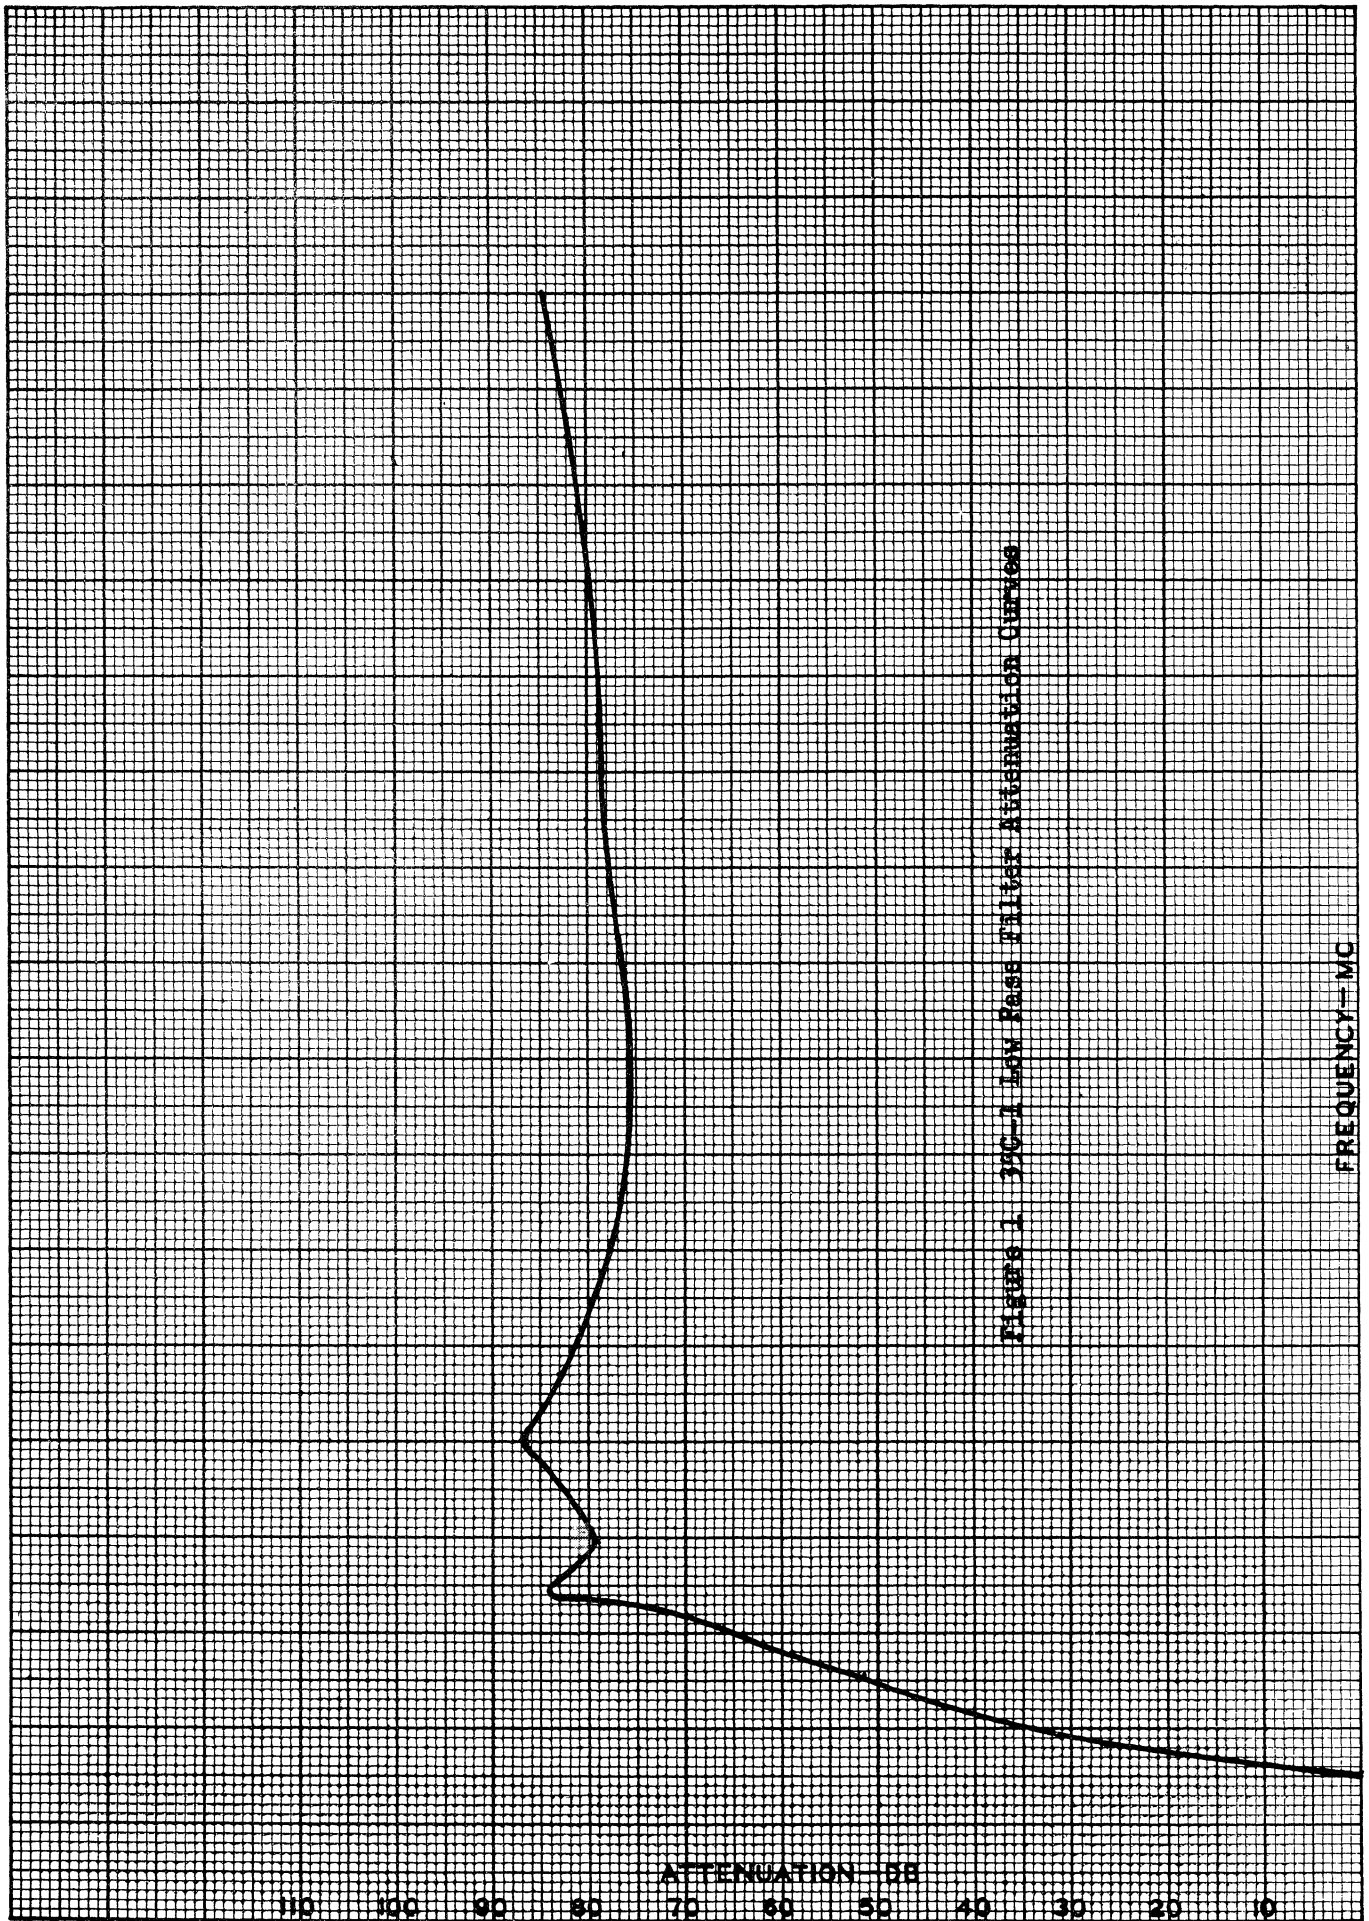

FIGURE 1. 3MC-1 LOW PASS FILTER ATTENUATION CURVES
- Figure 1 35C-1 Low Pass Filter Attenuation Curves
The idea of tearing into an otherwise perfectly functioning transmitter and changing the class of operation or adding filter components is not very well accepted by most amateurs. The reasonable alternative is a well shielded, compact and highly effective external filter unit to be placed in the antenna transmission line. To make the shielding of the filter unit most effective and at the same time reduce the possibilities of complications, unbalanced output of the transmitter can be used with the result that inexpensive coaxial line can be used to connect the transmitter to the filter unit. The outer conductor of the line and the case of the filter unit can then be easily grounded. The filter can be constructed to give 70 db attenuation to all frequencies above 5½ mc. See figure 1. The Collins Model 35C-1 Low Pass Filter can be connected directly to the output connector of a Collins Model 32V-2 or to the 32V-1 by replacing the antenna post with a coaxial fitting.